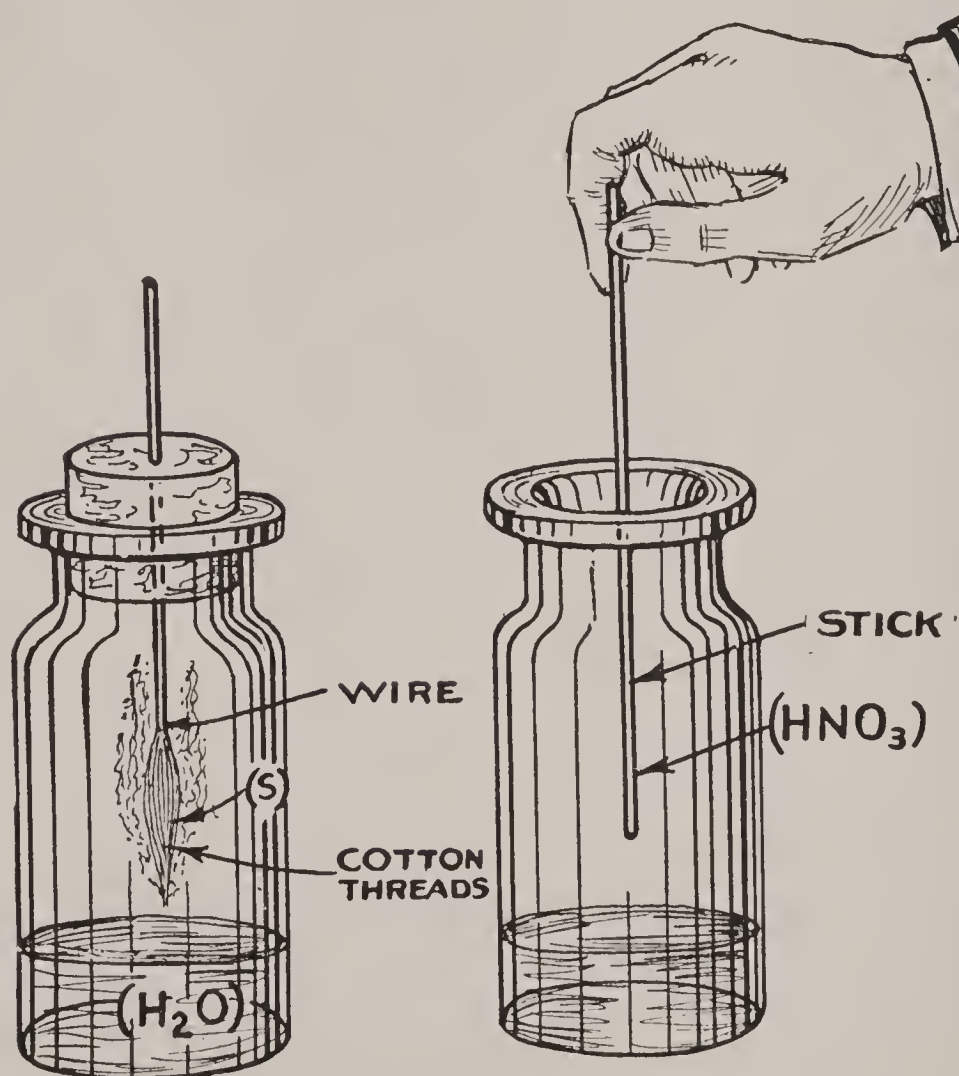

FIG. 109.—Sulphur Burning
The Easiest Way to Make Sulphuric Acid. Take a dozen pieces of cotton thread, each about 3 inches long, dip them into melted sulphur (S), and when they are cold tie them to one end of an iron wire about 6 inches long. Now push the other end of the wire into a cork and then put as much water (H_2O) as will fill a small test tube into a pint bottle. This done, light the sulphur (S) on the end of the wire, push the wire into the bottle, and cork it up, as shown in Fig. 109.